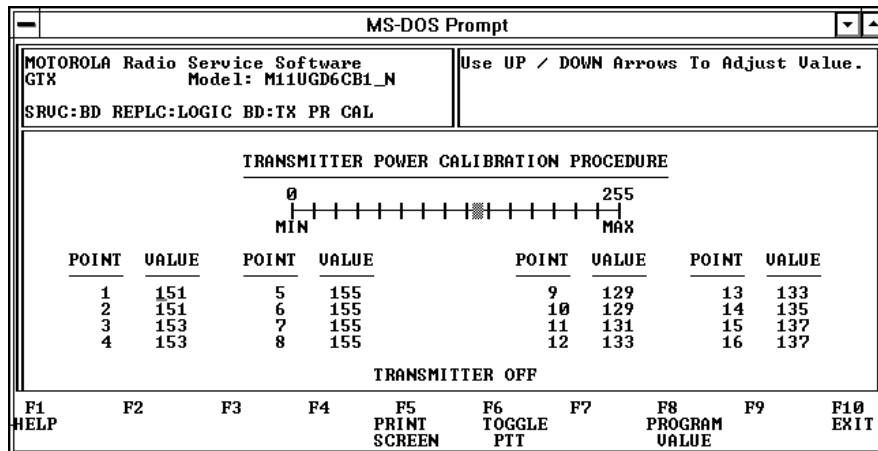

Figure 11.9 –Transmitter Power Calibration
1. Press F5, "Set TX POWER CALIBRATION" from the board replacement menu. The transmitter power calibration procedure is shown in Figure 11.9.